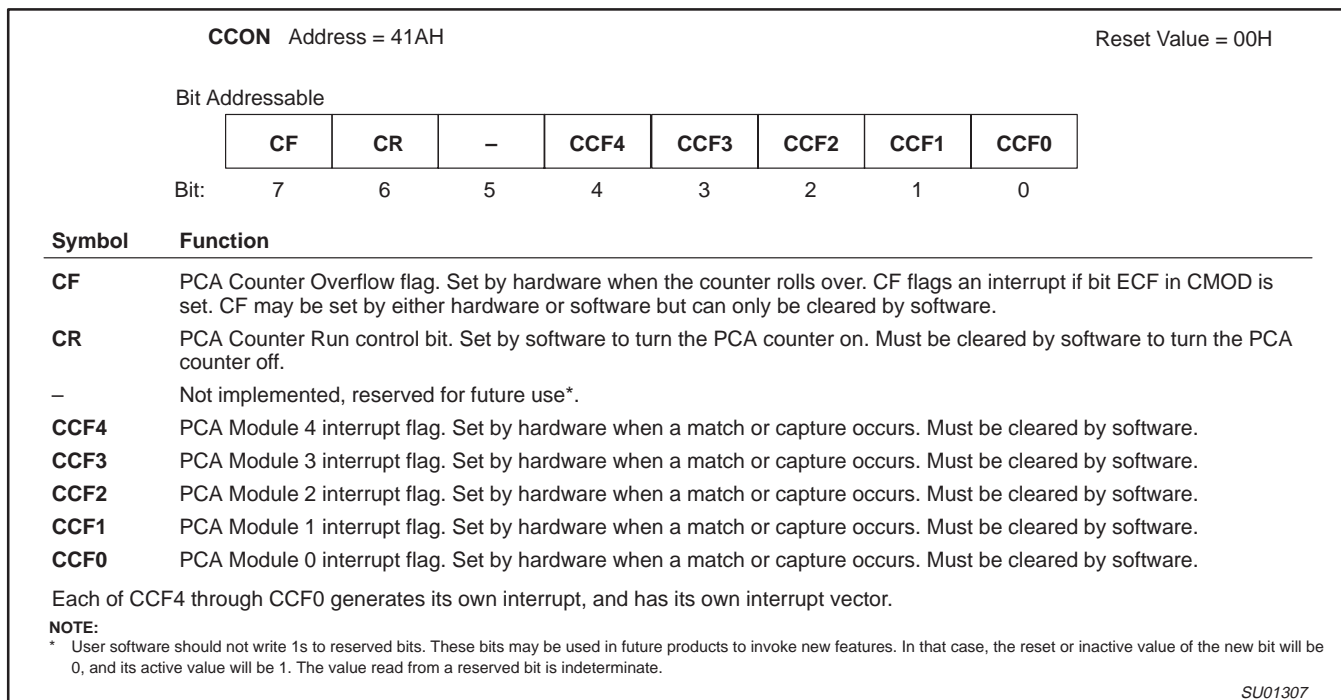

Figure 11. CCON: PCA Counter Control Register
The CCON SFR contains the run control bit for the PCA and the flags for the PCA timer (CF) and each module (refer to Figure 11). To run the PCA the CR bit (CCON.6) must be set by software. The PCA is shut off by clearing this bit. The CF bit (CCON.7) is set when the PCA counter overflows and an interrupt will be generated if the ECF bit in the CMOD register is set. The CF bit can only be cleared by software. Bits 0 through 4 of the CCON register are the flags for the modules (bit 0 for module 0, bit 1 for module 1, etc.) and are set by hardware when either a match or a capture occurs. These flags also can only be cleared by software. The PCA interrupt system shown in Figure 9.